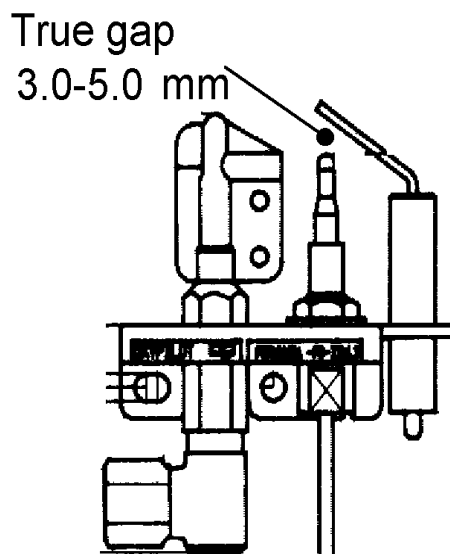

Figure 10. Pilot ignition system
- b.* Check spark gap between electrode wire and thermocouple tip. See figure 10.